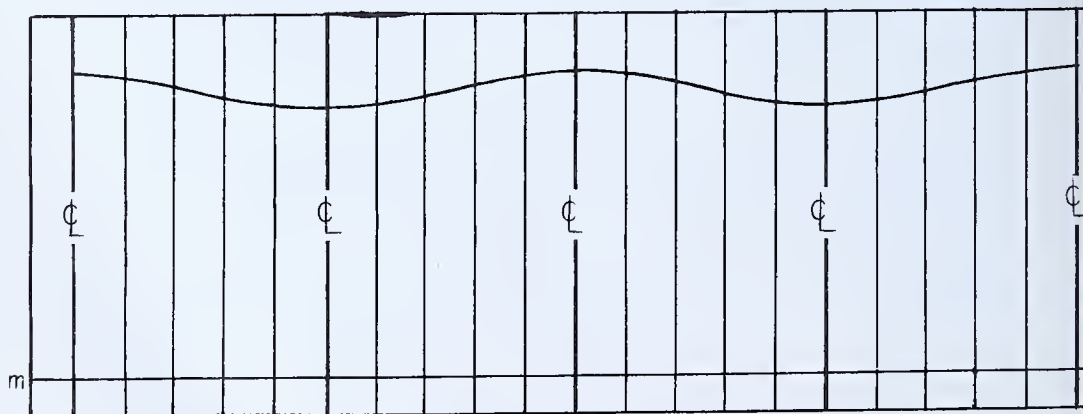

FIG. 280 — *Intersections Connected by a Smooth Line*
19. Scribe a line from one intersection to the next one so that the completed line will flow evenly from end to end of the template paper as shown in Fig. 280.